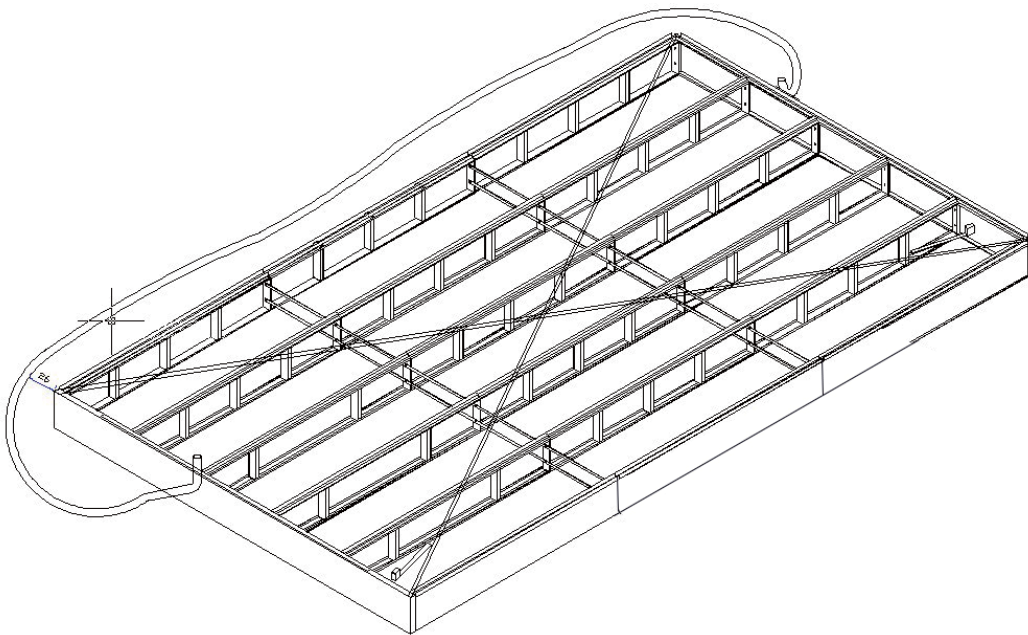

Fig. 2.5
2. Adjust the level of the connect point: find the highest point with the level measure apparatus,then elevate other point with something.Shown in Fig.2.5
3. Adjust the uprightness: adust the side boards and middle bracket with beeline,and distribute the distant between the rows,so that we can put the grids easily.Shown in Fig.2.5.
4. Check that all the longitudinal pieces have been mounted perfectly perpendicular to the end heads, to do this measure the two diagonals between the corner of the anterior end head and the opposite corner of the anterior end head, if they show the same values we are certain that it is assembled correctly. and the error value should be less than 5mm (shown in Fig.2.5).
5. Installate the bottom of the heat-air generator: the air out mouth should be connect with the metal sides board.(shown in Fig.2.5)